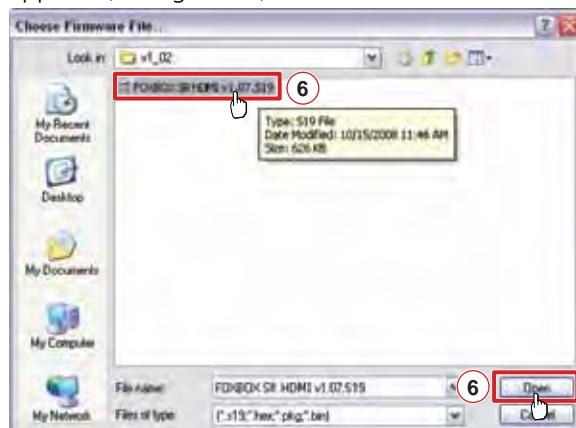

Figure 32. Choose Firmware File Window
- Select the FOXBOX receiver and click **File > Open**. The Choose Firmware File screen appears (see figure 32).